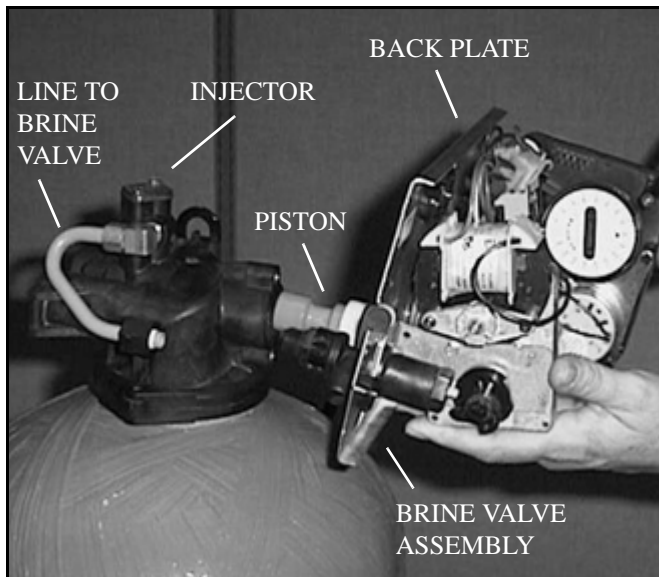

Figure 1 *Removing Power Head And Piston Assembly*
5. Grasp the back plate on both sides and slowly pull end plug and piston assembly out of the valve body, (see Fig. 1) and lay aside.
19. Hold the back plate with one hand and guide the piston into the valve body with the other hand, then grasp the back plate on both sides and slowly push the piston assembly and end plug assembly into the valve (See Fig. 1).